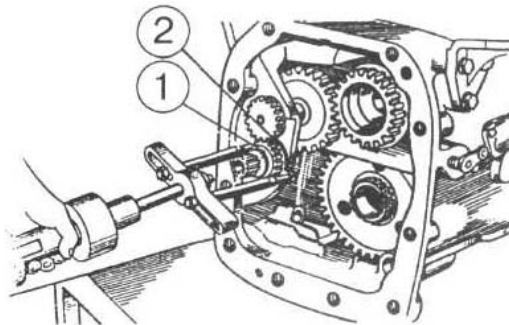

Figure 4.35
- b) press out gear 1 (Figure 4.35) together with axle, bearingom and locking ring;